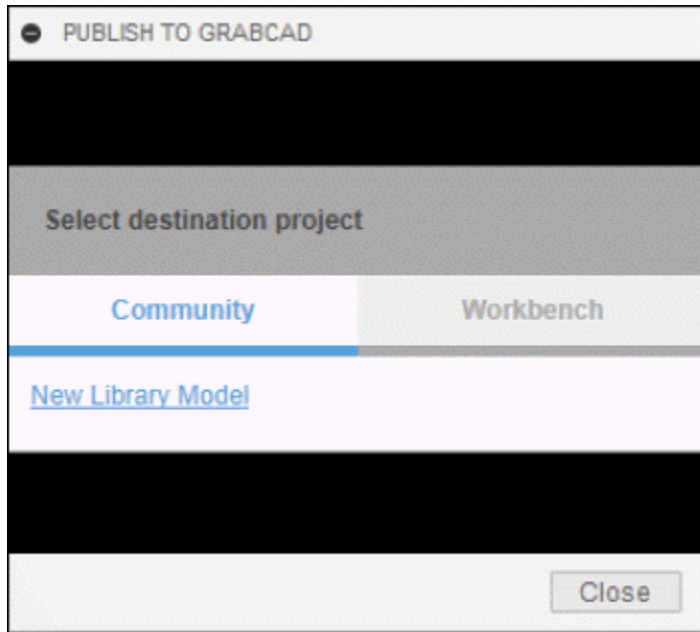

Figure-76. Select Destination Project
- Once you have login to your account, the dialog box will be displayed as shown in Figure-76.